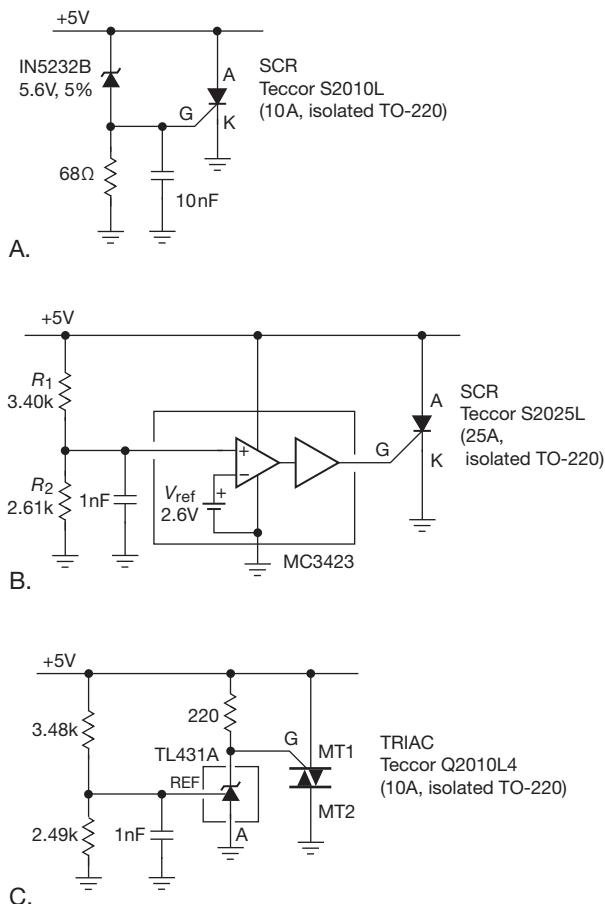

Figure 9.102. Overvoltage crowbars.
Figure 9.102 shows three classic crowbar circuits – (A) is simple and robust, but inflexible; (B) uses an IC trigger circuit that lets you set the trigger point more accurately; and